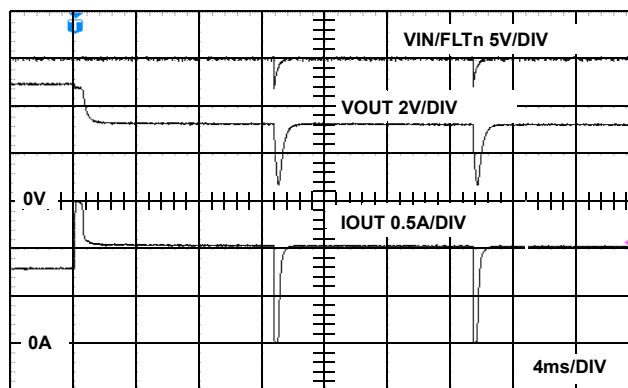

FIGURE 22. AUTO RESET OPERATION
Initially as voltage is applied to VIN, the pull up resistor (R_{pu}) provides for pull up to VIN on both the ENABLE pin asserting the output once $VIN > 2.5V$ and on the FLTn pin. Once turned on and an overcurrent (OC) condition occurs the IC provides CR protection for 10ms and then the FLTn pin pulls low through R_{pu} and also pulling the ENABLE low thus resetting the device fault condition. At this time the R_{pu} charges the cap and the voltage on the ENABLE/FLTn node rises until the $ENABLE > 2.0$ and the output is asserted on once again. This automatic reset cycle will continue until the OC fault no longer exists on the output. After several seconds in this mode of operation the IC thermal protection invokes adjusting the timing of the on-off cycle to prevent excessive thermal dissipation in the power switch protecting itself and surrounding circuitry. See Figure 22 for operation waveform.